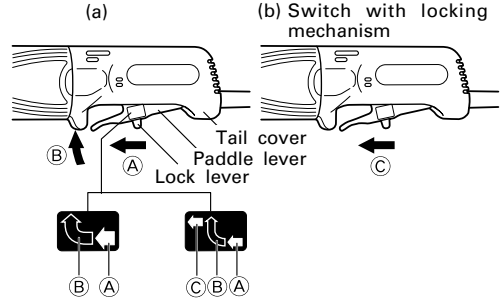

Fig. 3
- 3. To prevent a new depressed center wheel from digging into the workpiece, initial grinding should be performed by drawing the grinder across the workpiece toward the operator (Fig. 3 direction B). Once the leading edge of the depressed center wheel is properly abraded, grinding may be conducted in either direction.
Switch ON: To switch on, slide the lock lever in the direction of ⑪ and press the paddle lever in the direction of ⑫ as shown in Fig. 3-a.
Furthermore, slide the lock lever in the direction of ⑬ shown in Fig. 3-b while pressing the paddle lever to lock and enable continuous operation.
Switch OFF: To release the locking mode, press the paddle lever in the direction of ⑭ shown in Fig. 3-a, and release the paddle lever to switch off.
To switch on, slide the lock lever in the direction of ⑪ and press the paddle lever in the direction of ⑫ as shown in Fig. 3-a. Release the paddle lever to switch off.